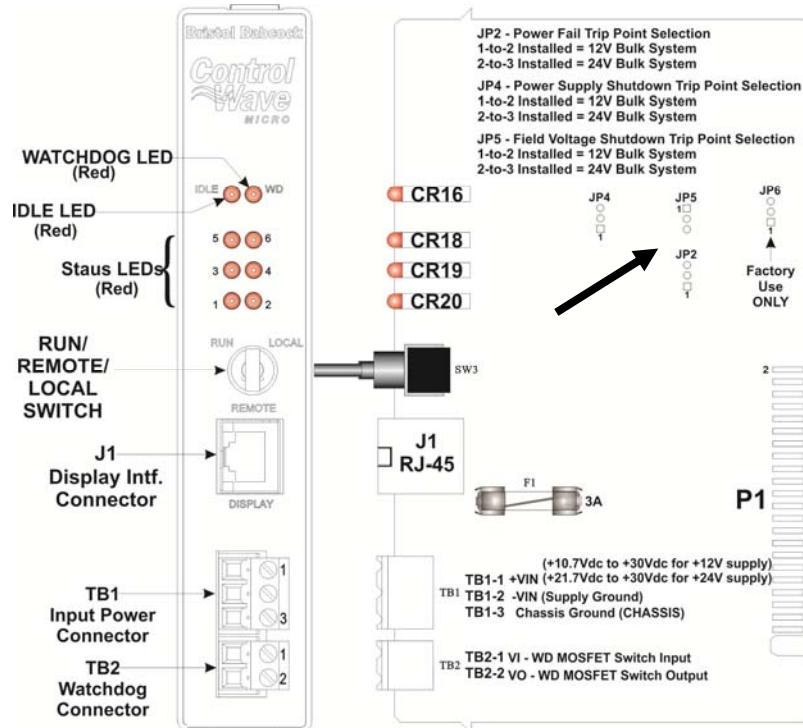
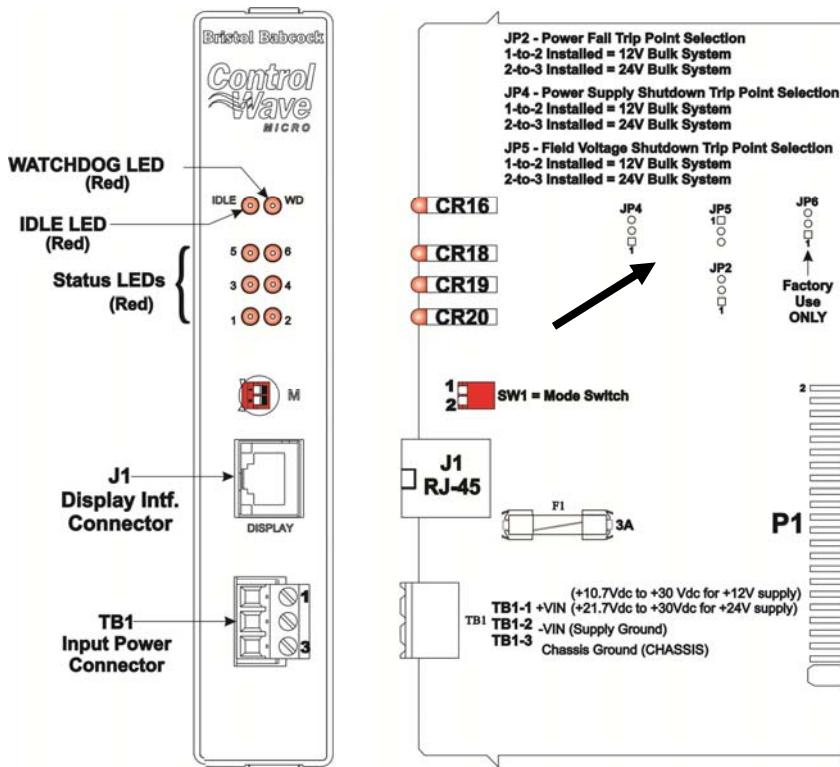

Figure 2-9. PSSM with Run/Remote/Local Switch, Display Interface, and Watchdog Connector
Figure 2-10. PSSM Module with Mode Switch, Display Interface, and without Watchdog Connector
- PSSM with Run/Remote/Local Switch & Display Interface (model 396657-01-0, Revision A and above) (see *Figure 2-9*)
- PSSM with Mode Switch SW1 & Display Interface (model 396657-02-8 without Watch Dog, Revision A and above) (see *Figure 2-10*)
Two terminal blocks (see *Figure 2-9*) provide external input power and watchdog connector switch connections. Two red LEDs on the PSSM's front panel enable you to monitor the status of the watchdog (WD) and Idle (IDLE) circuits.
The power supply operates from +10.7 to +30 Vdc or from +21.7 to +30 Vdc. You can configure the nominal input supply configuration (12V or 24V) using configuration jumper switches on the PSSM PCB. See *Figure 2-9* and *Figure 2-10*.
The PSSM has three jumpers which you set based on whether your bulk DC power supply will provide +12V or +24V. See *Figure 2-9* or *Figure 2-10* to locate the jumpers on your version of the PSSM.
The version of the PSSM shown in *Figure 2-10* has a DIP switch that controls whether the PSSM operates in Local Mode or Recovery Mode.
The version of the PSSM shown in Figure 2-9 includes an optional watchdog connector. The purpose of the watchdog connector is to